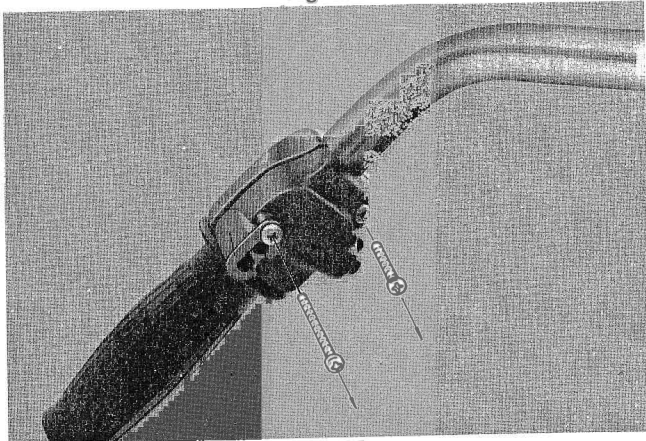

Fig. 23
19. Remove the two setting screws holding the right-hand handle switch assembly, and separate the switch assembly. (Fig. 23)